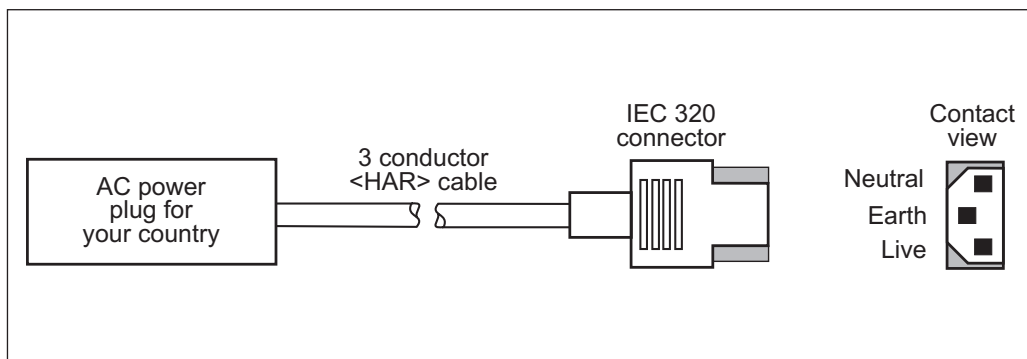

Figure 37
- The chassis ground (earth) **MUST** be connected to assure safety and reduce electromagnetic interference. The ground connection is handled by the third wire (earth) in the power line cord. See Figure 37.